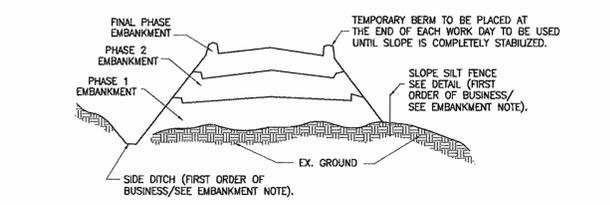

Figure 5 Incremental Stabilization - Embankment Fill Comply with MD 378 Specifications.
- Construction sequence: Refer to Figure 5 (below):
- Select one or more of the species or mixtures listed in Table 26 for the appropriate Plant Hardness Zone (from Figure 5) and enter them in the Temporary Seeding Summary below, along with application rates, seeding dates and seeding depths. If this Summary is not put on the plans and completed, then Table 26 must be put on the plans.
- Select one or more of the species or mixtures listed in Table 25 for the appropriate Plant Hardness Zone (from Figure 5) and enter them in the Permanent Seed Summary below, along with application rates and seeding dates. Seeding depths can be estimated using Table 26. If this Summary is not put on the construction plans and completed, then Table 25 must be put on the plans. Additional planting specifications for exceptional sites such as shorelines, streambanks, or dunes or for special purposes such as wildlife or aesthetic treatment may be found in USDA-SCS Technical Field Office Guide, Section 342 - Critical Area Planting. For special lawn maintenance areas, see Section IV Sod and V Turfgrass.